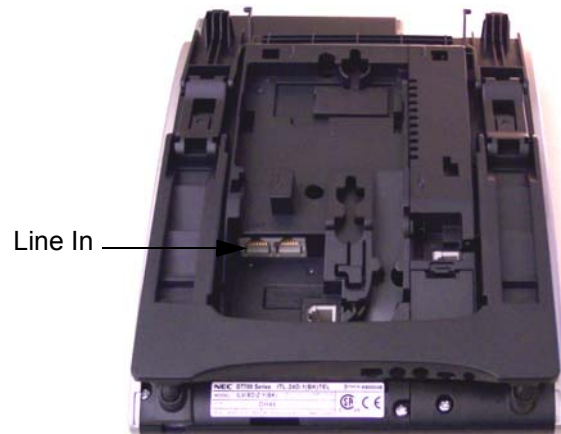

Figure 5-116 Plugging in Line Cord
3. Plug the line cord into the Multiline Terminal as illustrated in Figure 5-116 Plugging in Line Cord.